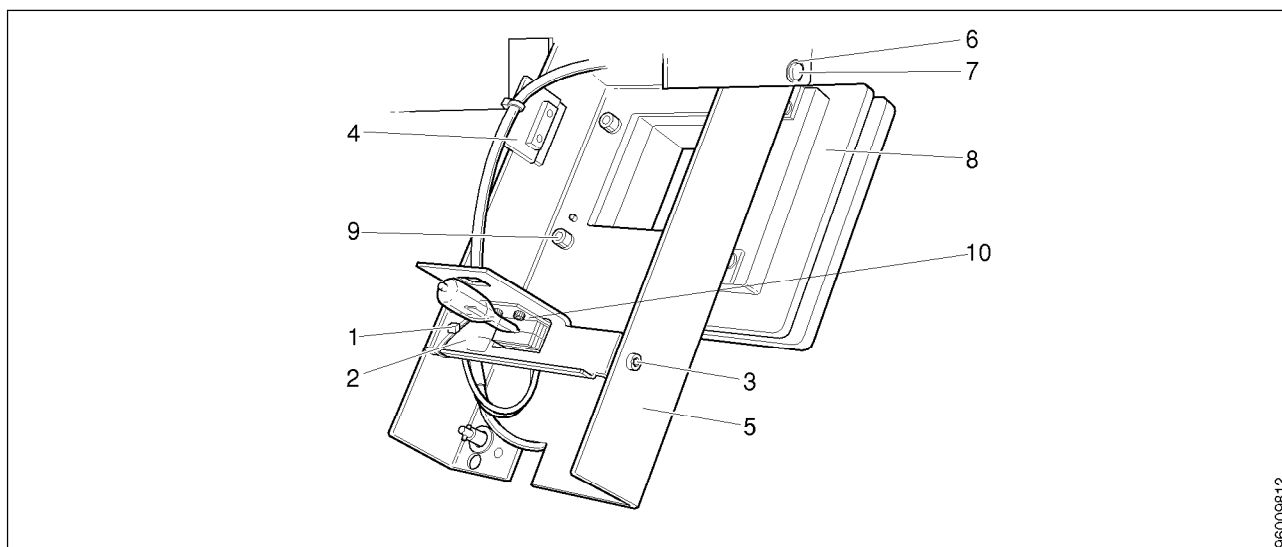

Fig. 6
- Remove the 2 screws (3/Fig. 6).
- Remove the lamp holder (2/Fig. 6).
- Remove the circlip (6/Fig. 6).
- Pull out the shaft (7/Fig. 6).
- Remove the collimator support (5/Fig. 6).
- Remove the 4 screws (9/Fig. 6).
- Remove the bracket (8/Fig. 6).